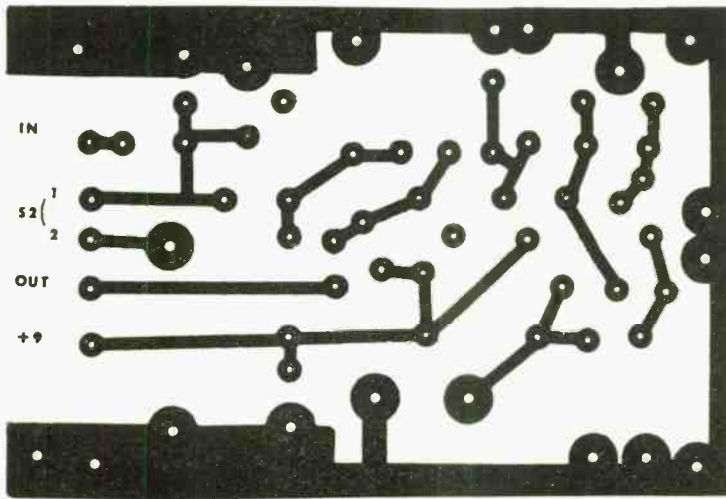
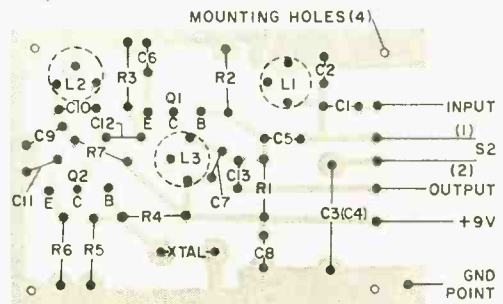

Fig. 2. Actual-size printed board is easy to duplicate (or it can be purchased). Terminal identification is the same as shown on the schematic.
Fig. 3. Parts installation on the upper side of the board. Note that all coils have three support lugs.
**Construction.** The circuit appearing in Fig. 1 may be assembled on a printed circuit board, similar to that shown actual-size in Fig. 2. Once the board is made (or purchased), the components are installed on the board in the locations shown in Fig. 3. Note that capacitor *C4*